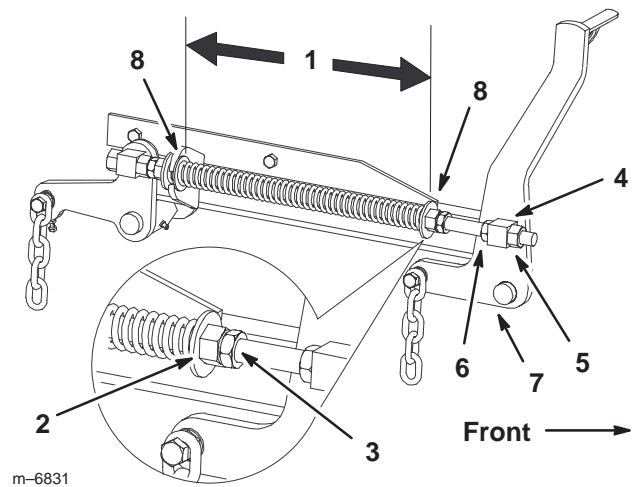

Figure 70
7. Loosen the front swivel jam nuts, at the front of the right and left swivels, approximately a 1/2 inch (13 mm) (Fig. 70).
8. Adjust the lift nuts on both the left and the right side of the machine to achieve **1/4 to 3/8 inch (6 to 10 mm) lower in front at A than in the rear at B** (Fig. 70).
2. Check the distance between the two large washers, it needs to be 11-1/2 inches (29.2 cm) (Fig. 70).
3. Adjust this distance, by loosening the spring jam nut and turning the nut in front of each spring (Fig. 70). Turning the nut clockwise will shorten the spring; counter-clockwise will lengthen the spring.
4. Lock the nut into position by tightening the spring jam nut (Fig. 70).